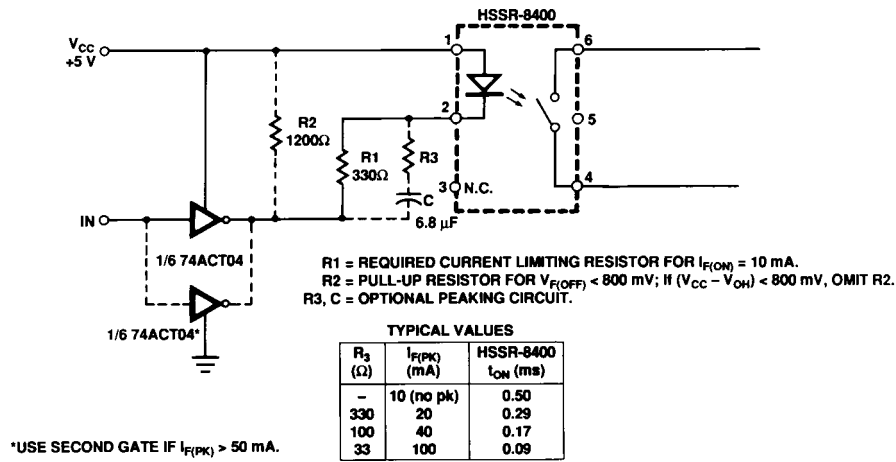

Figure 2. Recommended Input Circuit.
- For a faster turn-on time, the optional peaking circuit shown in Figure 2 may be implemented.
For applications which are sensitive to turn on time, the designer should refer to Figures 20 and 21. These figures show that although there is very little variation in t_{ON} within most of the population, a portion of the distribution will vary with use. The optional peaking circuit shown in Figure 2 can be used to reduce the total turn on time and, consequently, any associated variation.